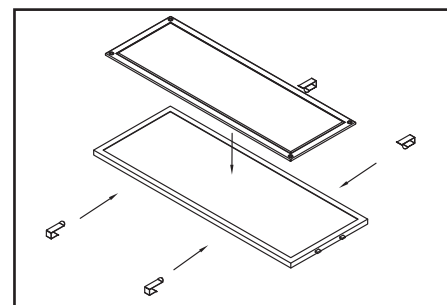

Fig.12
2. Remove decorative mesh filter from hood and place charcoal filter on top of mesh filter. Secure charcoal filter by 4 C clips from ZRC-00PI recirculation kit, 2 C clips for each elongated side of charcoal filter. Fig. 12